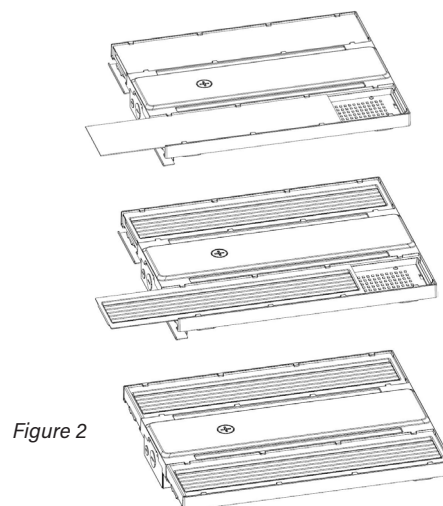

Figure 2
- Remove the lens from the fixture, replace them with new lens, and close the lens retaining plate. (Figure 2)